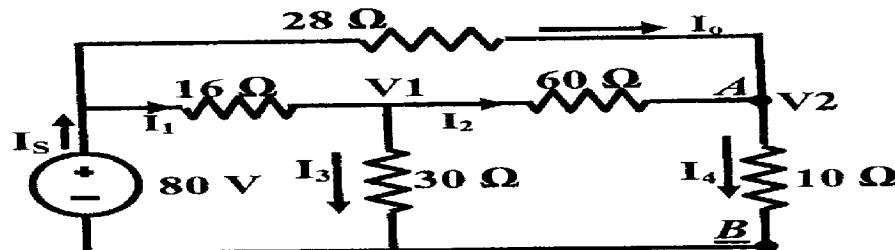

Fig. 3
- (3) Use Δ/Y transformation for the circuit of fig.3. to find the currents I_S , I_0 , and I_4 . Find also the voltages V_1 and V_2
- (5) Find the Thévenin's equivalent between terminals A and B for the circuit of Fig. 3 to find the voltage V_2 and the power dissipated in the 10Ω resistor.